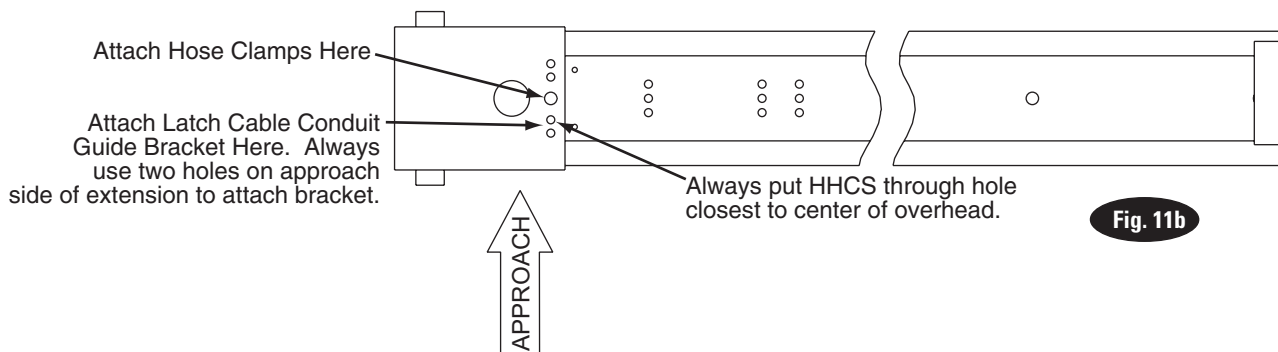
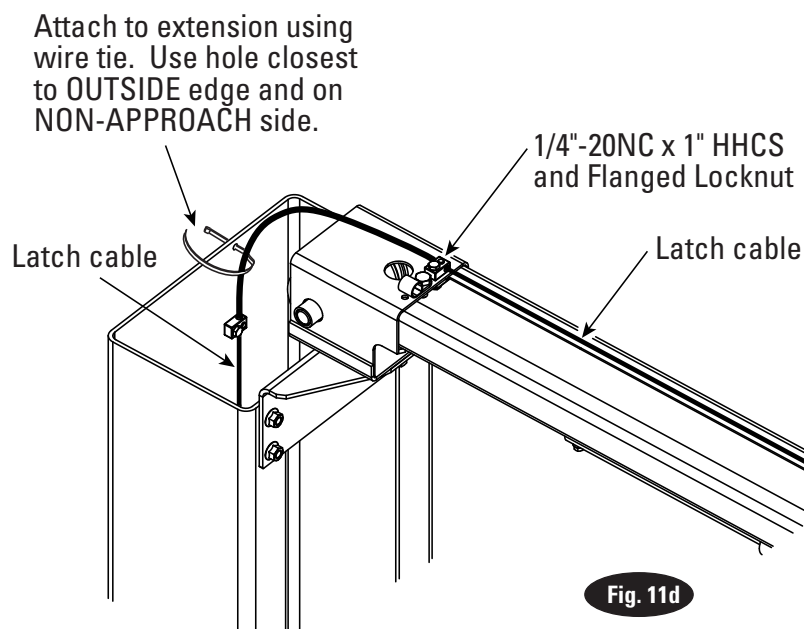
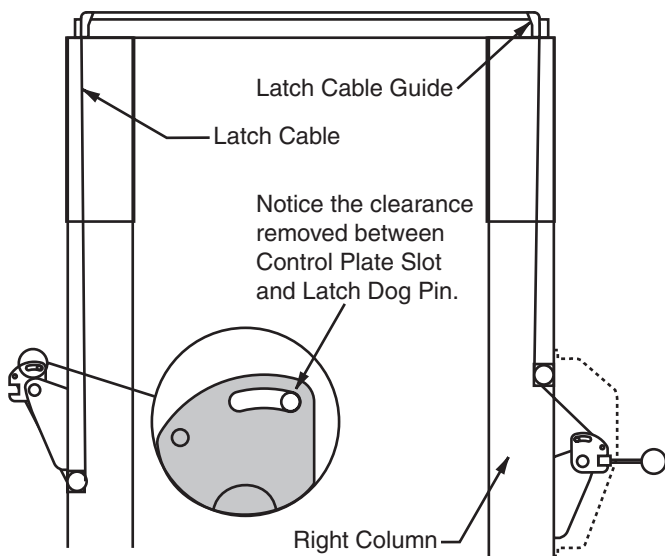
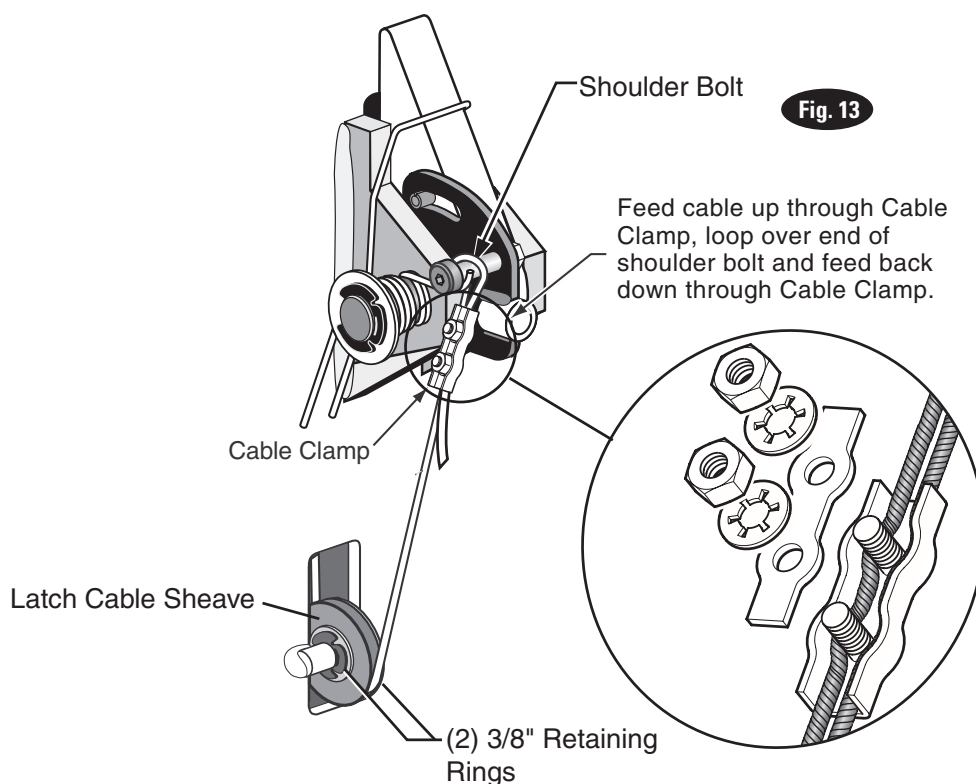

Fig. 11b
Fig. 11d
Fig. 12
Fig. 13
- D) Attach latch cable conduit guide brackets to overhead as shown, Fig. 11b & Fig. 11d. Always use the holes on the approach side of the lift. HHCS should be in hole nearest the center of the overhead, Fig. 11b.
- E) Route cable up inside column and through the latch cable guide, Fig. 11d & Fig. 12.
- IMPORTANT** Using wire ties provided, tie off cable guide to column extension as shown, Fig. 11d. Guide must be attached in hole closest to the outside edge of the column on the NON-APPROACH side.
- F) Continue routing cable to the left column latch cable guide, Fig. 11d & Fig. 12, routing the cable through the left column latch cable guide, Fig. 11d.
- G) Bring the cable down inside the left column and feed the end of the cable through the lower latch cable sheave slot so that the cable is now back outside the column, Fig. 13.
- H) Install latch cable sheave and retaining rings in lower slot of non-power unit column as shown, Fig. 13.
- I) Route cable under the bottom side of the latch cable sheave, Fig. 13.
- K) Insert cable in cable clamp along one side, loop around shoulder screw and back down, inserting cable along other side of cable clamp, Fig. 13. Place top back on clamp, barely tightening.
- L) Next, pull the control plate down, Fig. 12 & Fig. 13, to eliminate any clearance between the control plate slot and the latch dog pin, Fig. 12.